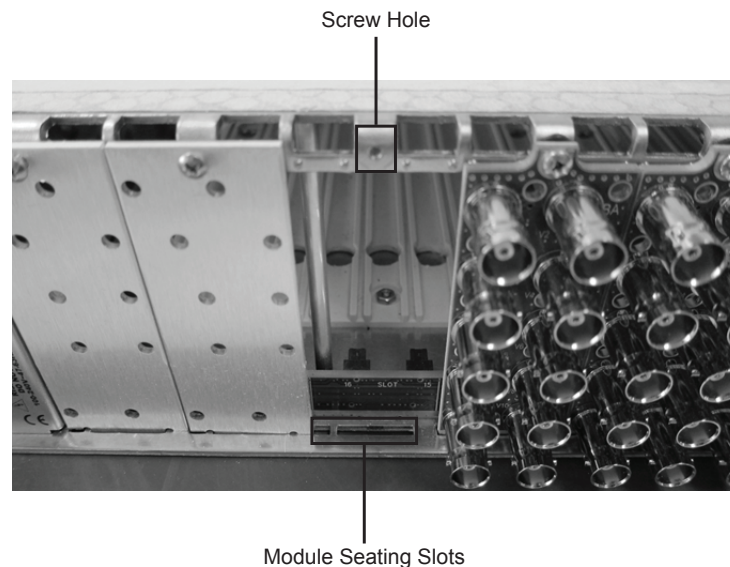

Figure 2.1 Rear Module Installation in an openGear Frame (ADA-8405-C not shown)
3. Install the bottom of the Rear Module in the **Module Seating Slot** at the base of the frame’s back plane. (**Figure 2.1**)